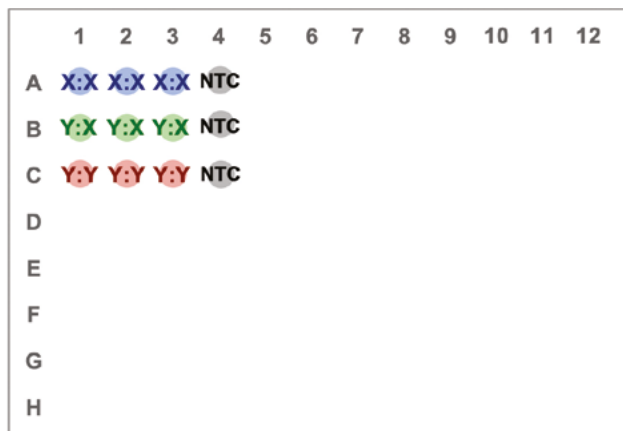

Figure 1. Suggested plate layout for dispense of the three KASP fluorophores supplied in the KASP validation kit.
2. Dispense the three different fluorophores into a microtitre plate. Each fluorophore should be dispensed into separate wells, in triplicate (see Figure 1 for suggested layout).